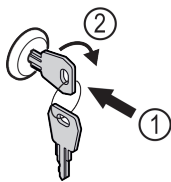

Fig. 124 Example illustration
- ▶ Insert key Fig. 124 (1).
- ▶ Turn key clockwise by 90° Fig. 124 (2).